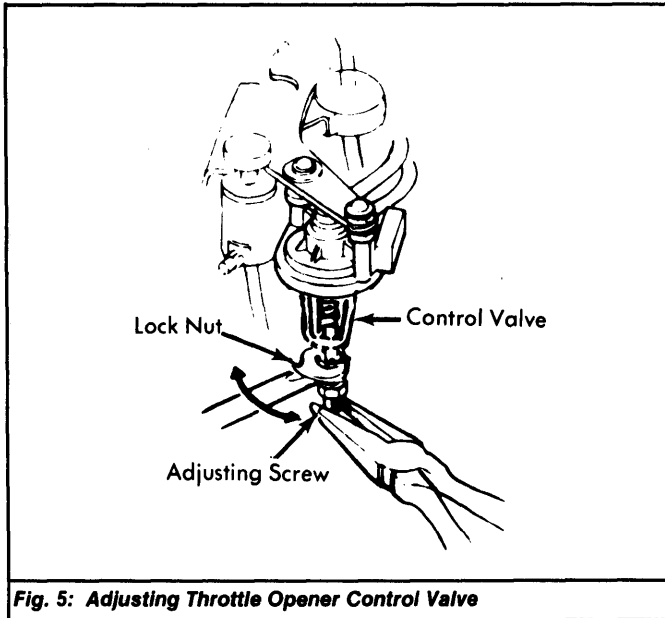

Fig. 5: Adjusting Throttle Opener Control Valve
3) Reconnect vacuum line to throttle opener diaphragm. Hold engine speed at 3500 RPM, release throttle, and note time required for throttle to close. Time should be 2-8 seconds. If not, turn control valve adjusting nut clockwise to decrease time or counterclockwise to increase time. See Fig. 5. If time cannot be adjusted, replace control valve and repeat testing procedure.